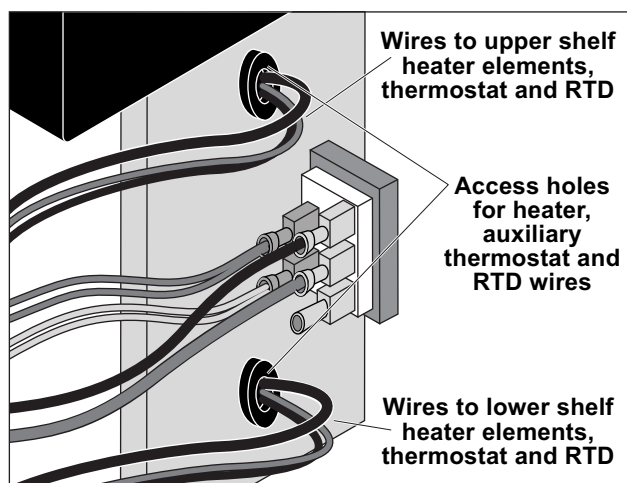

Figure 30. Wiring to Heater Elements, Auxiliary Thermostat and RTD Thermocouple
1. Set POWER ON/OFF switch (8) to the OFF position and disconnect Warmer from power source.
8. Disconnect the wires, Figure 30, going to the heater element to be removed, auxiliary thermostat and to the RTD thermocouple from inside the electrical compartment.
14. Reconnect wires, Figure 30.